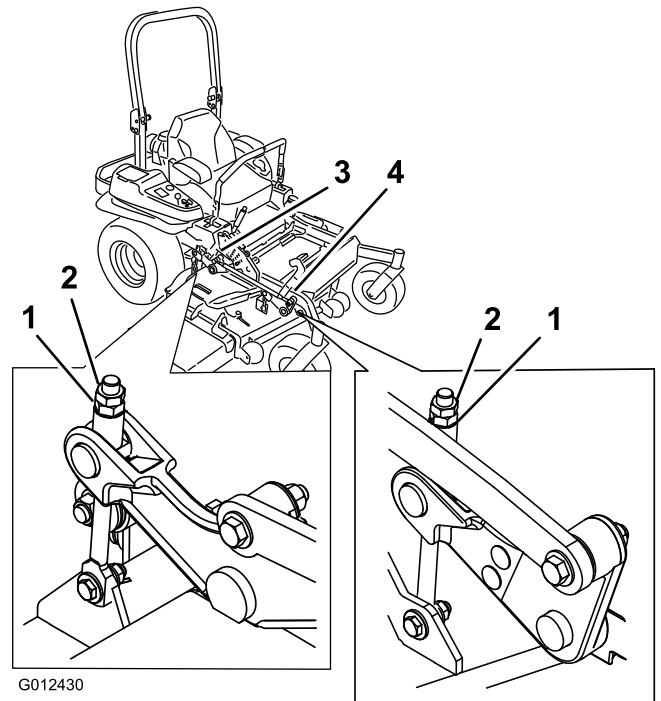

**Figure 87**
9. On both sides of the deck, measure from the level surface to the front tip of the blade (Position A). The measurement should read 3 inches (7.6 mm) (Figure 87).
- On both sides of the deck, measure from the level surface to the back tip of the blade (Position B). The measurement should read 3 1/4 inches (8.3 cm) (Figure 87).